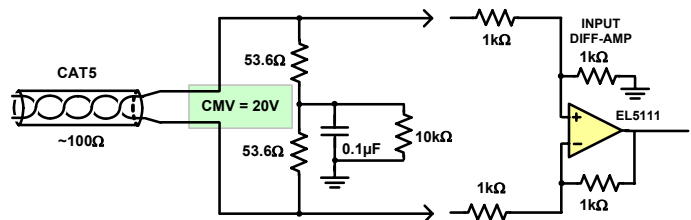
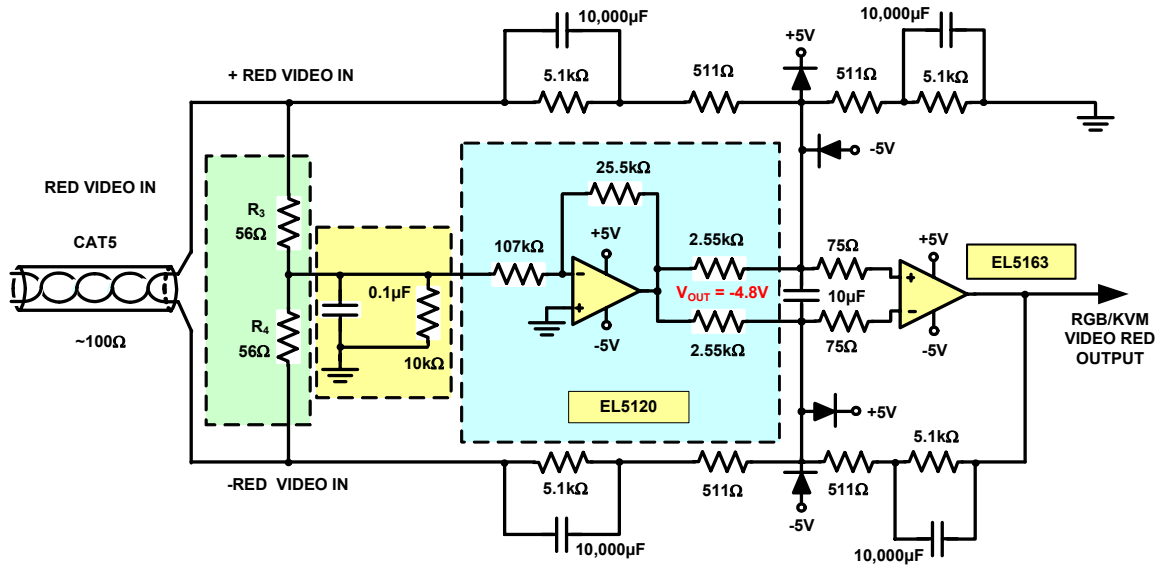

FIGURE 4.  $\pm 6V$  CMV CIRCUIT
FIGURE 10. RED OF RGB/KVM ACTIVE CMV CANCELATION
- 2. NTSC Video Resistor Diff-Amp with  $\pm 6V$  to  $\pm 20V$  CMV** - The second circuit, Figure 4, is based on a CMOS amp, EL5111, using feedback resistors and input series resistors to form the resistor diff-amp. This circuit will increase a typical diff-amp CMV to  $\pm 6V$  CMV.
**Note:** (Figure 4) NTSC/PAL - Why 53.6 $\Omega$  vs 50 $\Omega$ ? To insure Input Impedance is maintained at 100 $\Omega$ . The diff-amp 1k $\Omega$  input and feedback resistors were used for low noise and stable amp operation, yet the input resistors appear as a 1k $\Omega$  load to the cable. To maintain 50 $\Omega$  load to the Cat 5 cable, we change the cable input series termination to 53.6 $\Omega$  and the overall parallel input impedance value is 100 $\Omega$  at high frequency.
Why the 5.1k series resistor (Figure 10, R1 and R2)? The RGB high CMV amp needs higher input impedance at 50Hz to 60Hz to prevent excess CMV current load. The peak CMV current is now 3.3mA per each input line for a total of 6.6mA of CMV current.
**Note:** (Figure 10,  $R_3$  and  $R_4$ ) RGB/KVM - Why 56Ω vs 50Ω? To insure Input Impedance is maintained at 50Ω. For the same reason as in Figure 4, we change the cable input series termination to 56Ω and the overall parallel input impedance value is 50Ω at high frequencies.